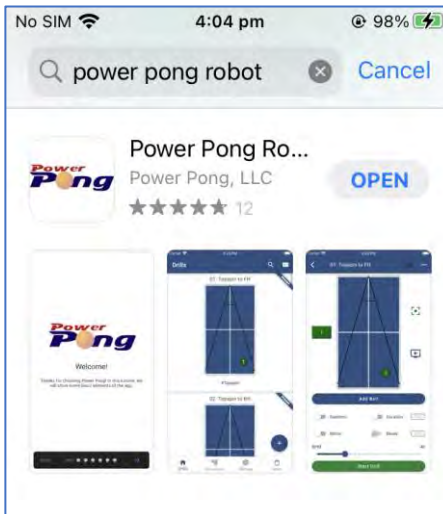

Figure 2-10
5. When you see the word OPEN show up (Figure 2-10) you have successfully downloaded / installed the Power Pong Robot application.